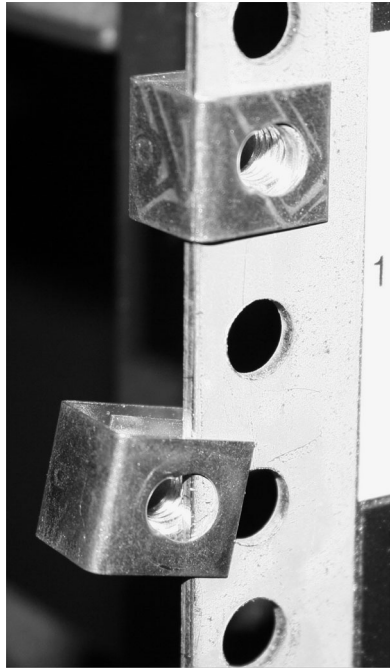

Figure 16. Positioning the clips
2. Position the four “C” clips in the rack’s mounting bar, as shown in Figure 16 on page 30.